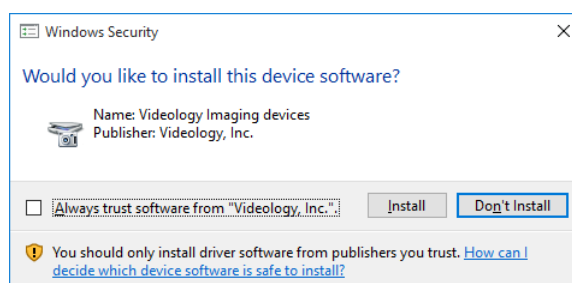

Figure 20. Message about the camera driver installation
15. If the message shown in Figure 20 appears on the screen, click on “*Install*” button